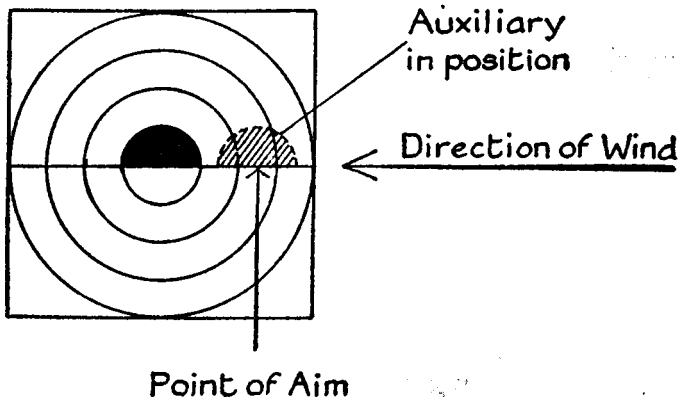

FIG. 8
- iii. Check aims by auxiliary aiming mark (*see Fig. 8*).